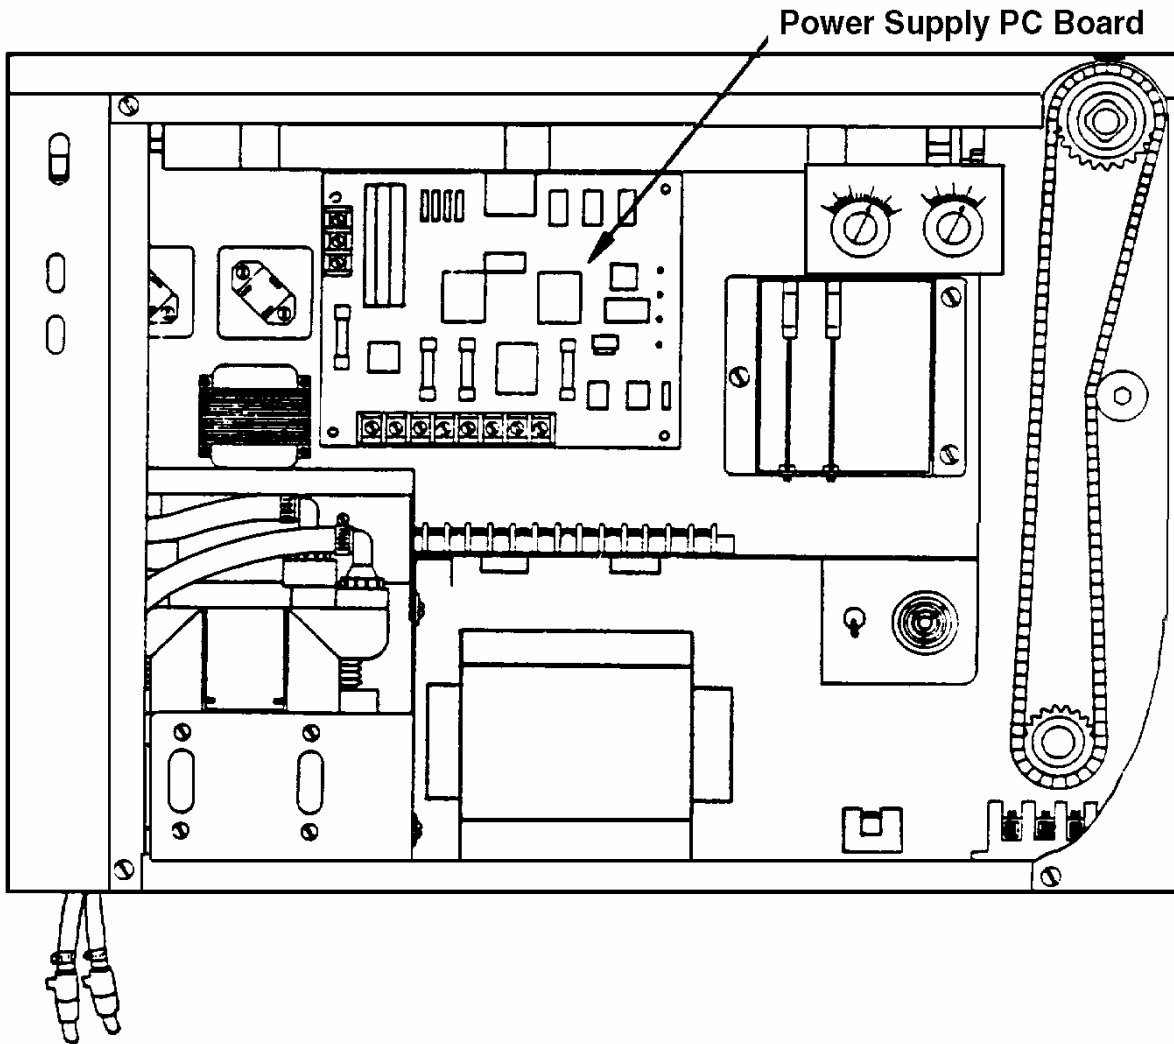

Figure 1-15. Power chassis components.
(1) Check the front panel. Perform the power supply and fuse test if there is a processor electrical malfunction. This check verifies that proper power is delivered to machine components. Refer to figure 1-15.